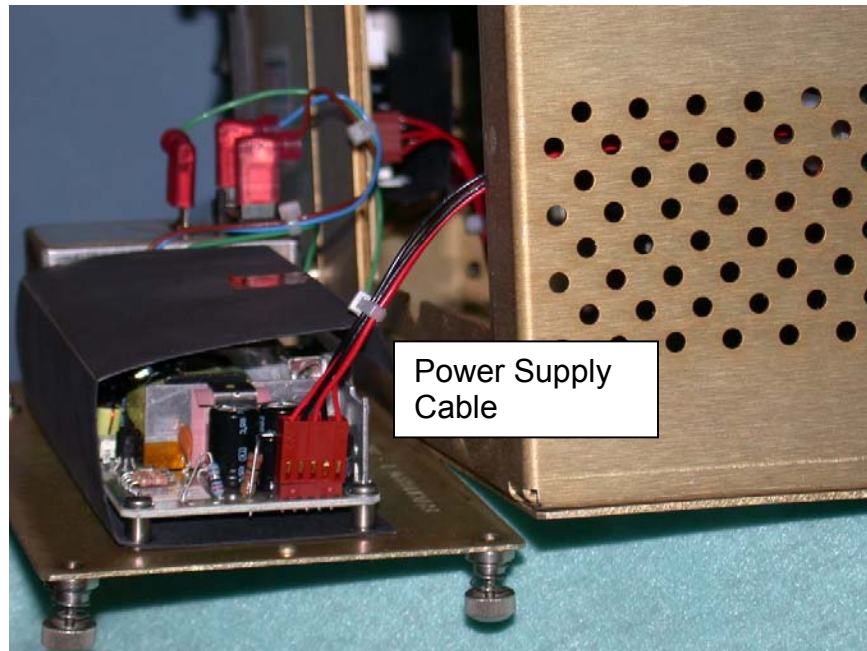

Figure 13. Unplug Power Supply A
- 4 Carefully unplug cable at the power supply. Place power supply on bench. (See Figure 13.)